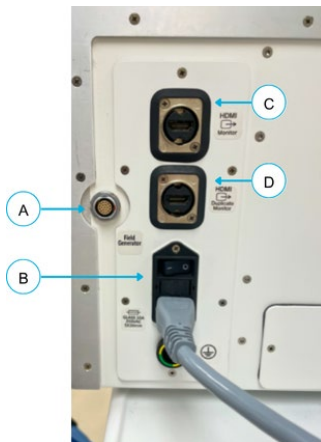

Figure 10-3: Generator Ports
6. Use the **HDMI to HDMI cable** to connect the Generator to the Monitor (see **Figure 10-3** and **Figure 10-4**).
1. Flip the power switch on the back of the Generator (labeled O/-) to the **ON** position (**B**) (**Figure 10-3**).